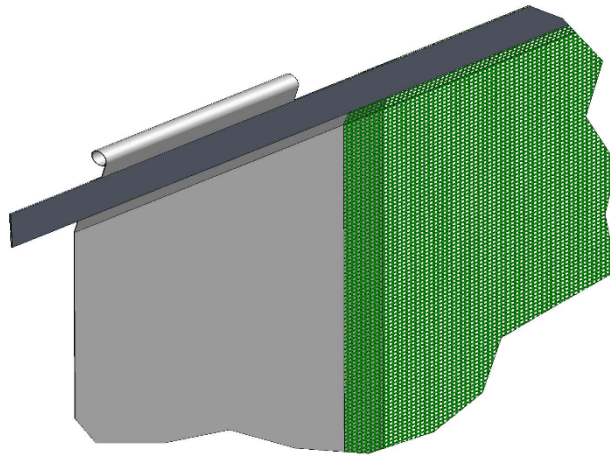

Figure 14
5.1 Orientation of door panel (A1): The webbing straps face towards the outside and the top is identified by the two 400mm long x 40mm pockets located at either end of the panel (Figure 14).